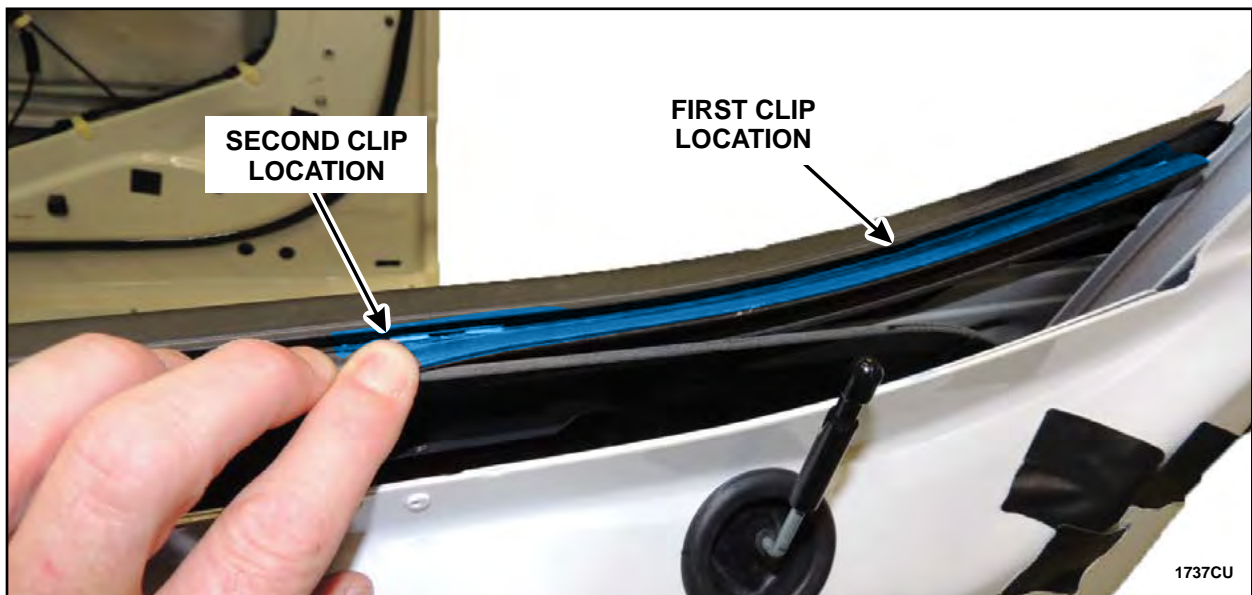

FIGURE 64
6. Clean the highlighted area of the outer belt moulding with isopropyl alcohol and a clean shop cloth. See Figure 64.